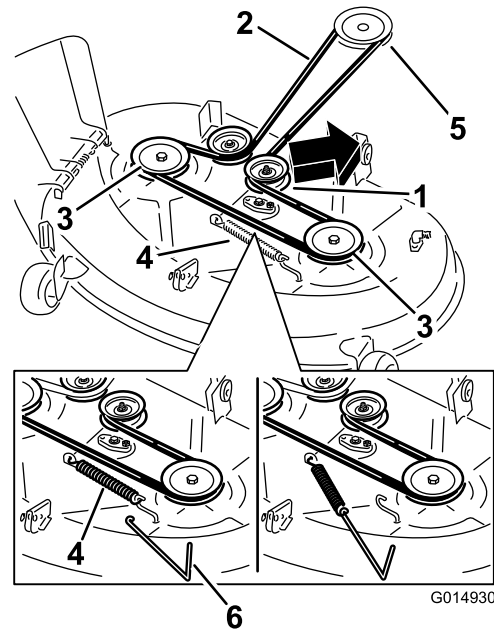
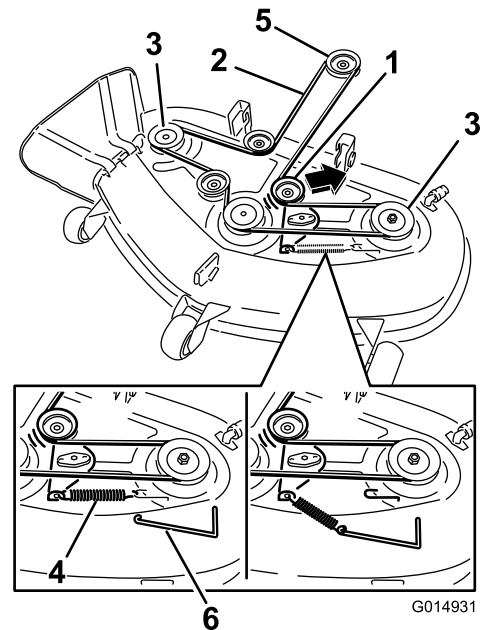

Figure 59
Figure 60
4. Using a spring removal tool, (Toro part no. 92-5771), remove the idler spring from the deck hook to remove tension on the idler pulley and roll the belt off of the pulleys (Figure 59 and Figure 60).
5. Route the new belt around the engine pulley and mower pulleys (Figure 60).
placing tension on the idler pulley and mower belt ((Figure 59 and Figure 60)).